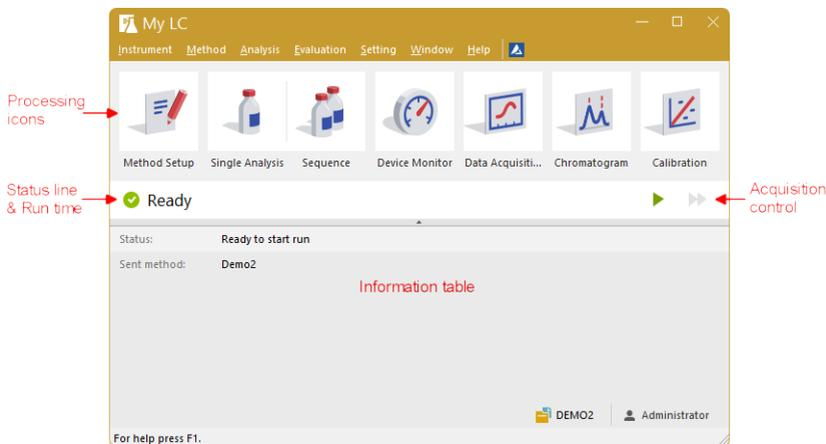

Fig. 3: Instrument window
- Run the analysis by clicking the *Run* button ⑦. The *Single Analysis* dialog will close now, but if you open it again, you will see three more buttons (*Stop*, *Abort*, *Snapshot*) accessible, allowing you to stop or abort the analysis or take snapshots (see the chapter "**Data Acquisition window**" on pg. 13.).
- In the *Instrument* window, look at the *Status line* (see **Fig. 3** on pg. 10.). The acquisition is now signaled by the *RUNNING* state and the actual run time is displayed there.
- To see the data acquisition in process and possibly control it, use the *Data Acquisition*  icon (see **Fig. 3** on pg. 10.) to enter the *Data Acquisition* window.
- In the *Data Acquisition* window two signals can be seen. This is because the analysis is set as two-detector ① analysis.